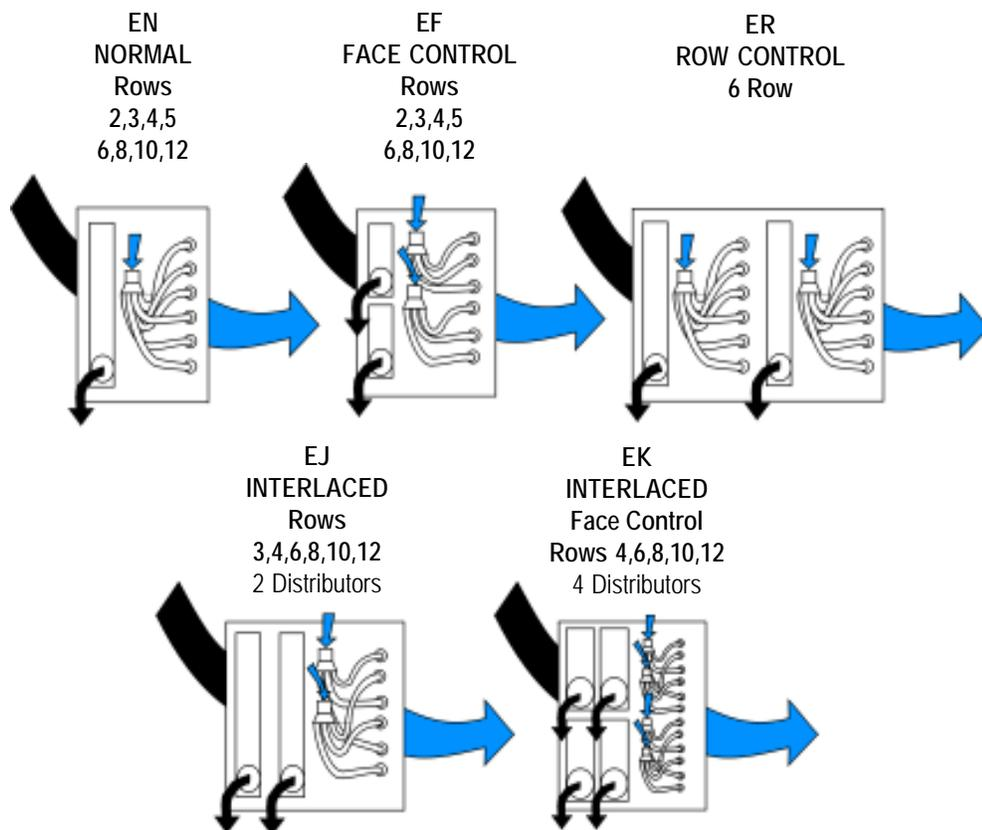

Figure 1 - Evaporator Coils
3. See Figure 1 - Evaporator Coils.
3. We offer a row control (ER) option for six row evaporators. These coils are split two rows and four rows which offer approximately a 50% capacity reduction.
6. See Figure 1 - Evaporator Coils.